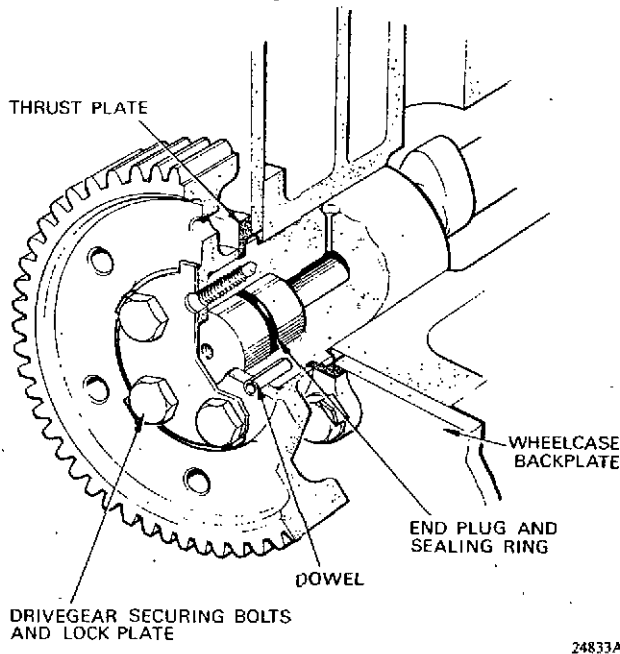

Fig. 7 Camshaft front end assembly
7. **Camshaft front assembly.** Referring to fig. 7, fit the thrust plate, counterbore inwards, centralise it visually around the camshaft, tighten its setbolts to 40 lb.ft. (55Nm) and bend up their